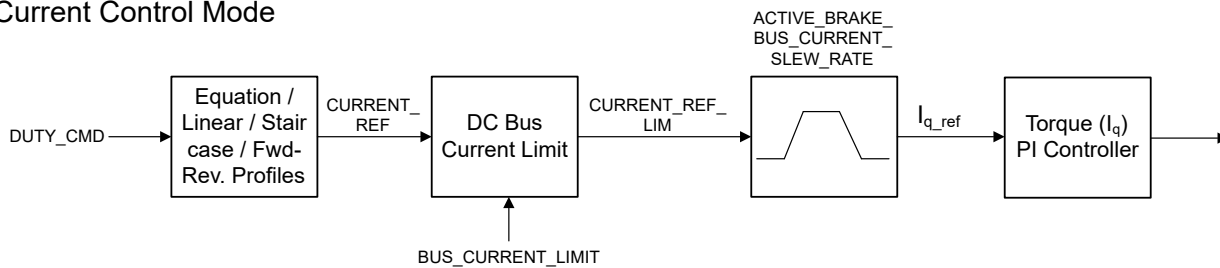

图 7-48. DC Bus Current Limit
The DC bus current limit feature can be used to limit the current supplied by the DC input source (VM). This feature can be enabled by setting `BUS_CURRENT_LIMIT_ENABLE` to 1b. The DC bus current limit can be configured using `BUS_CURRENT_LIMIT`. This feature limits the DC bus current by limiting the speed (`SPEED_REF_LIM`)/current (`CURRENT_REF_LIM`) reference as shown in 图 7-48. Enabling this feature may restrict the speed/phase current of the motor from reaching the set point (`SPEED_REF` or `CURRENT_REF`) in order to limit the DC bus current. The DC bus current limit status is reported on `BUS_CURRENT_LIMIT_STATUS`.